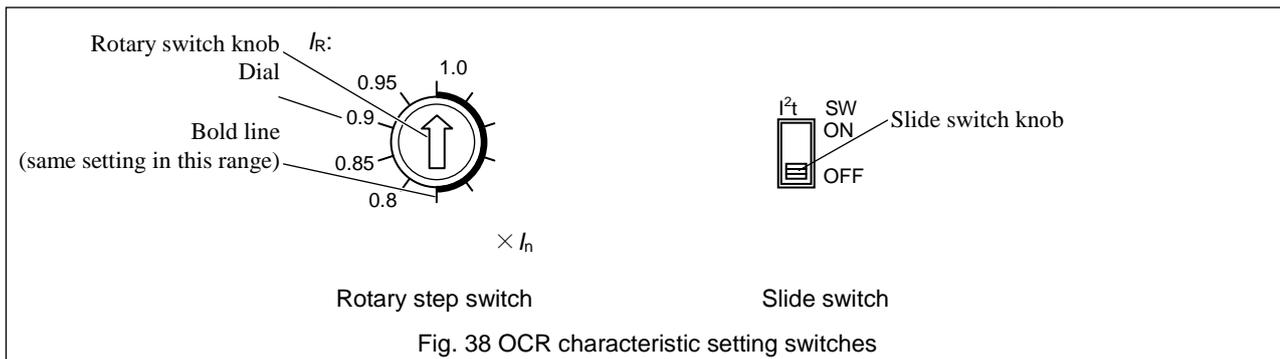

Fig. 38 OCR characteristic setting switches
- 3) Use rotary step switches and slide switches to set the OCR. See Fig. 38.